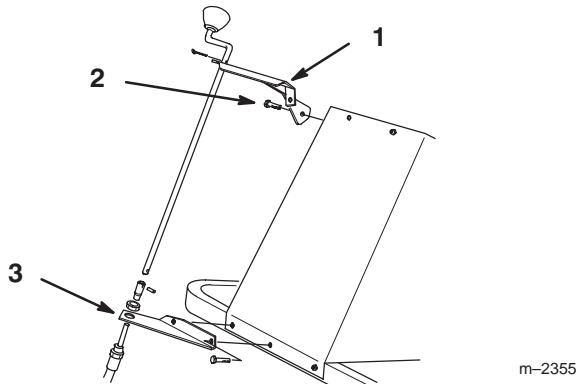

Figure 11
3. Aligning top bracket with holes and secure to tower with (2) 1/4-20 x 3/4" (19 mm) bolts (Fig. 11).
4. Aligning bottom bracket with holes and secure bracket to tower and frame channel with (2) screws previously remove (Fig 11).